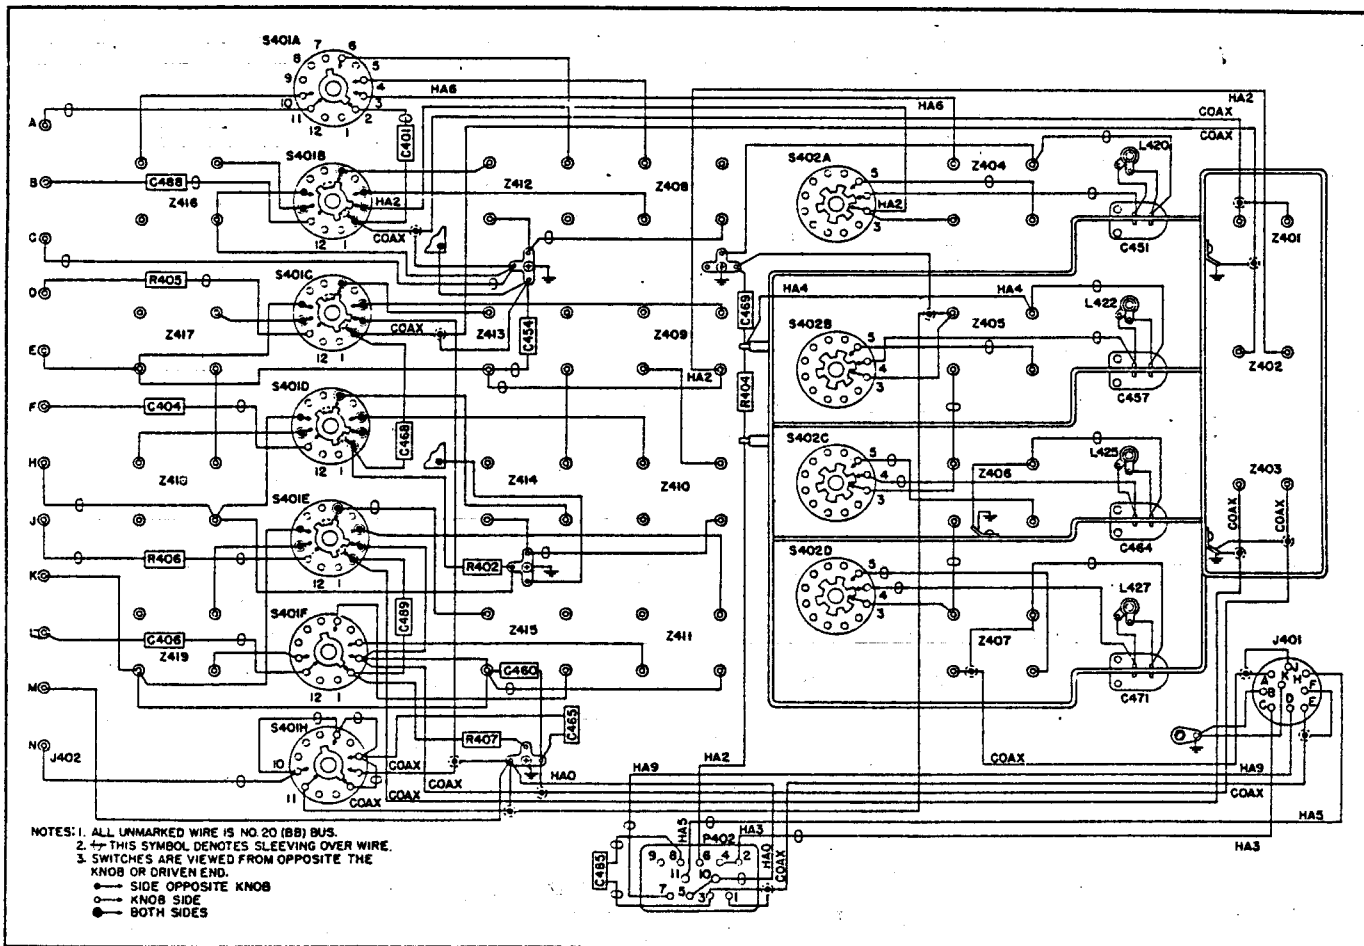

Figure 3-13. R-F and I-F Tuner Assembly, Wiring Diagram
e. Resolder all connections. Refer to figure 3-13.
e. Resolder all leads previously removed. Refer to figure 3-13.
g. Resolder all leads previously removed. Refer to figure 3-13.